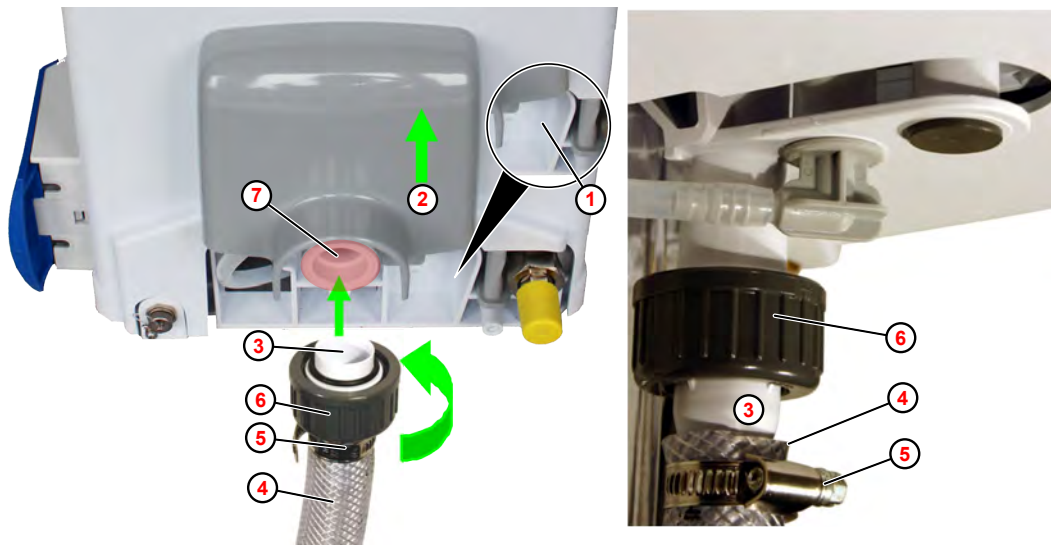

Fig. 5: Product feed line to the dishwasher
6. ➤ Hold down the release tab of the funnel lock (Fig. 5 , ①).
7. ➤ Push the funnel lock ② upwards and remove it.
8. ➤ Slide the union nut ⑥ over the connecting nipple ③ .
9. ➤ Slide the hose clamp ⑤ over the product feed line ④ .
10. ➤ Slide the product feed line ④ onto the connection nipple ③ .
11. ➤ Tighten the hose clamp ⑤ .
12. ➤ Connect the product feed line ④ to the funnel outlet ⑦ and tighten the union nut clockwise.
13. ➤ Connect the product feed line ④ to the tank connection.